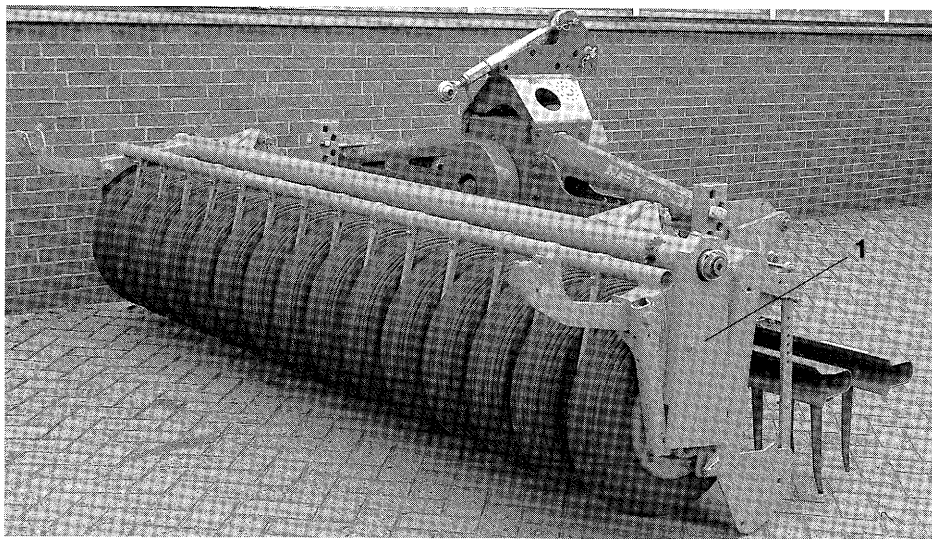

Fig. 54
-  Remove chain guard(Fig. 54/1).